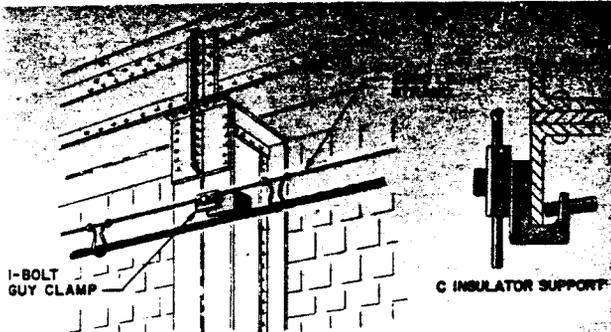

Fig. 10—C Insulator Support and One-Bolt Guy Clamp
- C insulator support (Fig. 10) will accommodate T knobs, one bolt guy clamps, and B or M bridle rings. It can be attached to steel structures up to 1 inch in thickness.